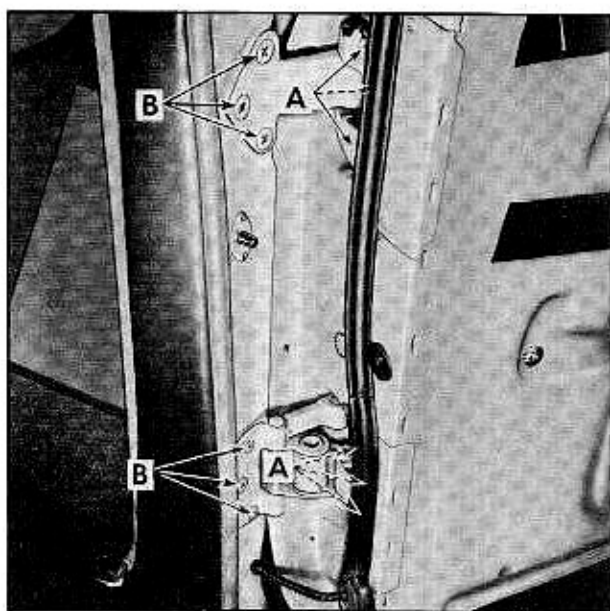

Fig. 3-21 Rear Door Hinge Attaching Bolts
4. Loosen door hinge pillar to door attaching bolts, Fig. 3-21, and shift door vertically as required.
5. Remove either upper or lower hinge to center pillar bolts, Fig. 3-21. It is easier to adjust one hinge at a time.
(20) Door Lock Striker Adjustment, Removal and Installation